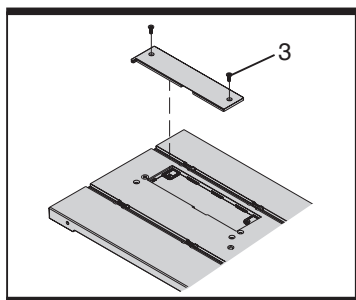

Fig 3
- 1) Loosen the screws (3) on the table insert by a screwdriver and remove the table insert (See fig. 3).